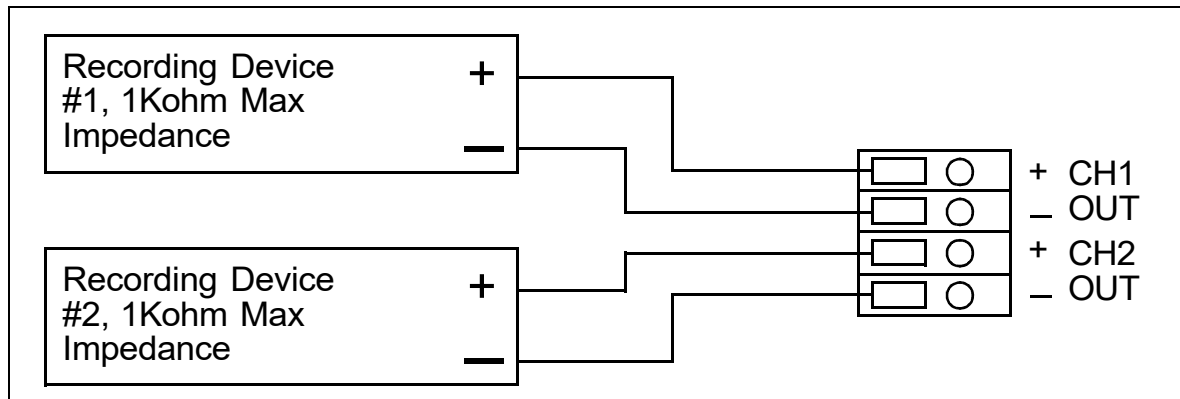

Figure 9: Recorder Output Wiring
5. Connect the wires from the recording device to the recorder output terminals as shown in Figure 9.